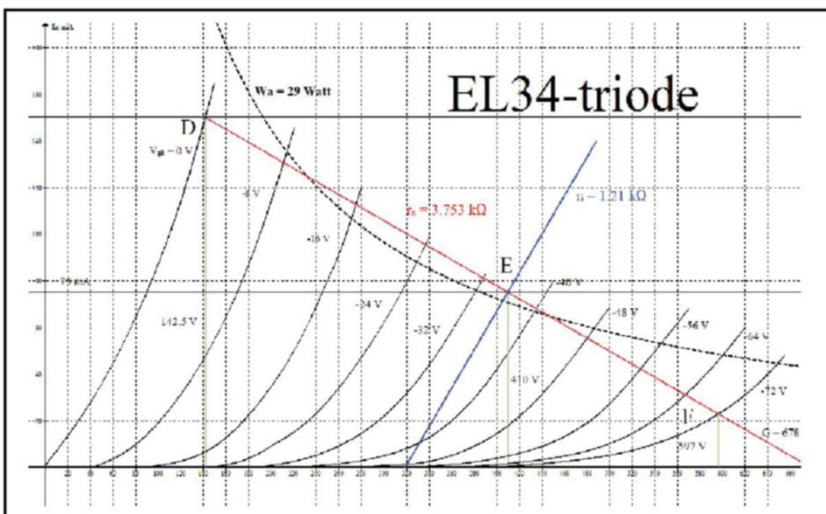

Figure 4: The EL34 with operation point $V_a = 410V$ and $I_a = I_0 = 75mA$
These characteristics, shown in **Figure 4**, are constructed by myself from earlier less readable graphs. I apologize for not giving the needed scientific credit. I do not know where I got this early material 25 years ago.
Step 1: Choose a dissipation and a quiescent V_{ak} voltage. I have chosen $V_{ak} = 410V$ and $I_a = I_0 = 75mA$. This is a common choice. The quiescent point E is where, in Figure 4, the red, the blue, and the green colored lines intersect. The power consumption is $P_a = 410 \times 75 = 30.75W$.
increase to $2 \times I_0$. This maximum value of course is reached when $V_g = 0$. This maximum current, according to the specs [1], is 150mA. The red load line, shown in Figure 4, is drawn from the point (410, 75) toward a current of $2 \times 75 = 150mA$. The point D of 150mA is chosen where the red line crosses the curve of $V_g = 0.0V$ in the point (142.5V, 150mA). Extending it to the right side, it happens to hit the $I_a = 0$ line at point G, where $V_a = 678V$. We now know two values: the anode voltage swing is $v_a = (410 - 142.5) = 267.5V$. The anode current swing is 75mA. But we can tell a lot more.
The internal resistance of the EL34 (look at the blue line in Figure 4) in this configuration is:
Choose the maximum value of $I_a = 2 \times I_0$. Observe the corresponding V_{min} in point D (Figure 4).